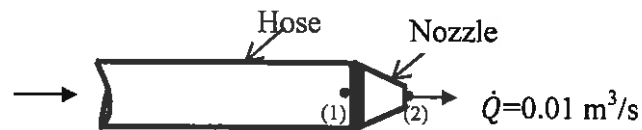

Figure Q2a
- (a) A fire hose nozzle having a 3-cm diameter at the exit delivers $0.01 \text{ m}^3/\text{s}$ of water. If the nozzle is attached to a 7.5-cm diameter hose as shown in Figure Q2a, find the pressure just upstream the nozzle at point (1) to deliver this flowrate.